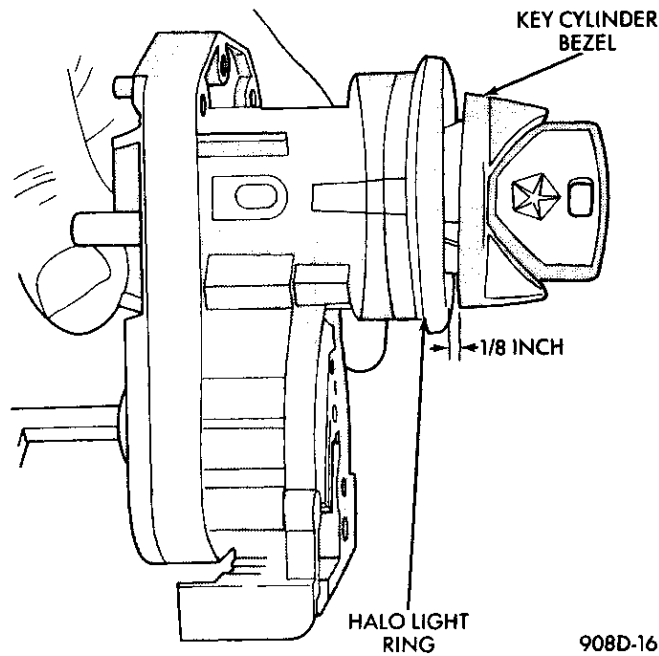

Fig. 4 Unseated Key Cylinder
- (b) Rotate the key clockwise to the Off position. The key cylinder should now be unseated from the ignition switch assembly (Fig. 4).